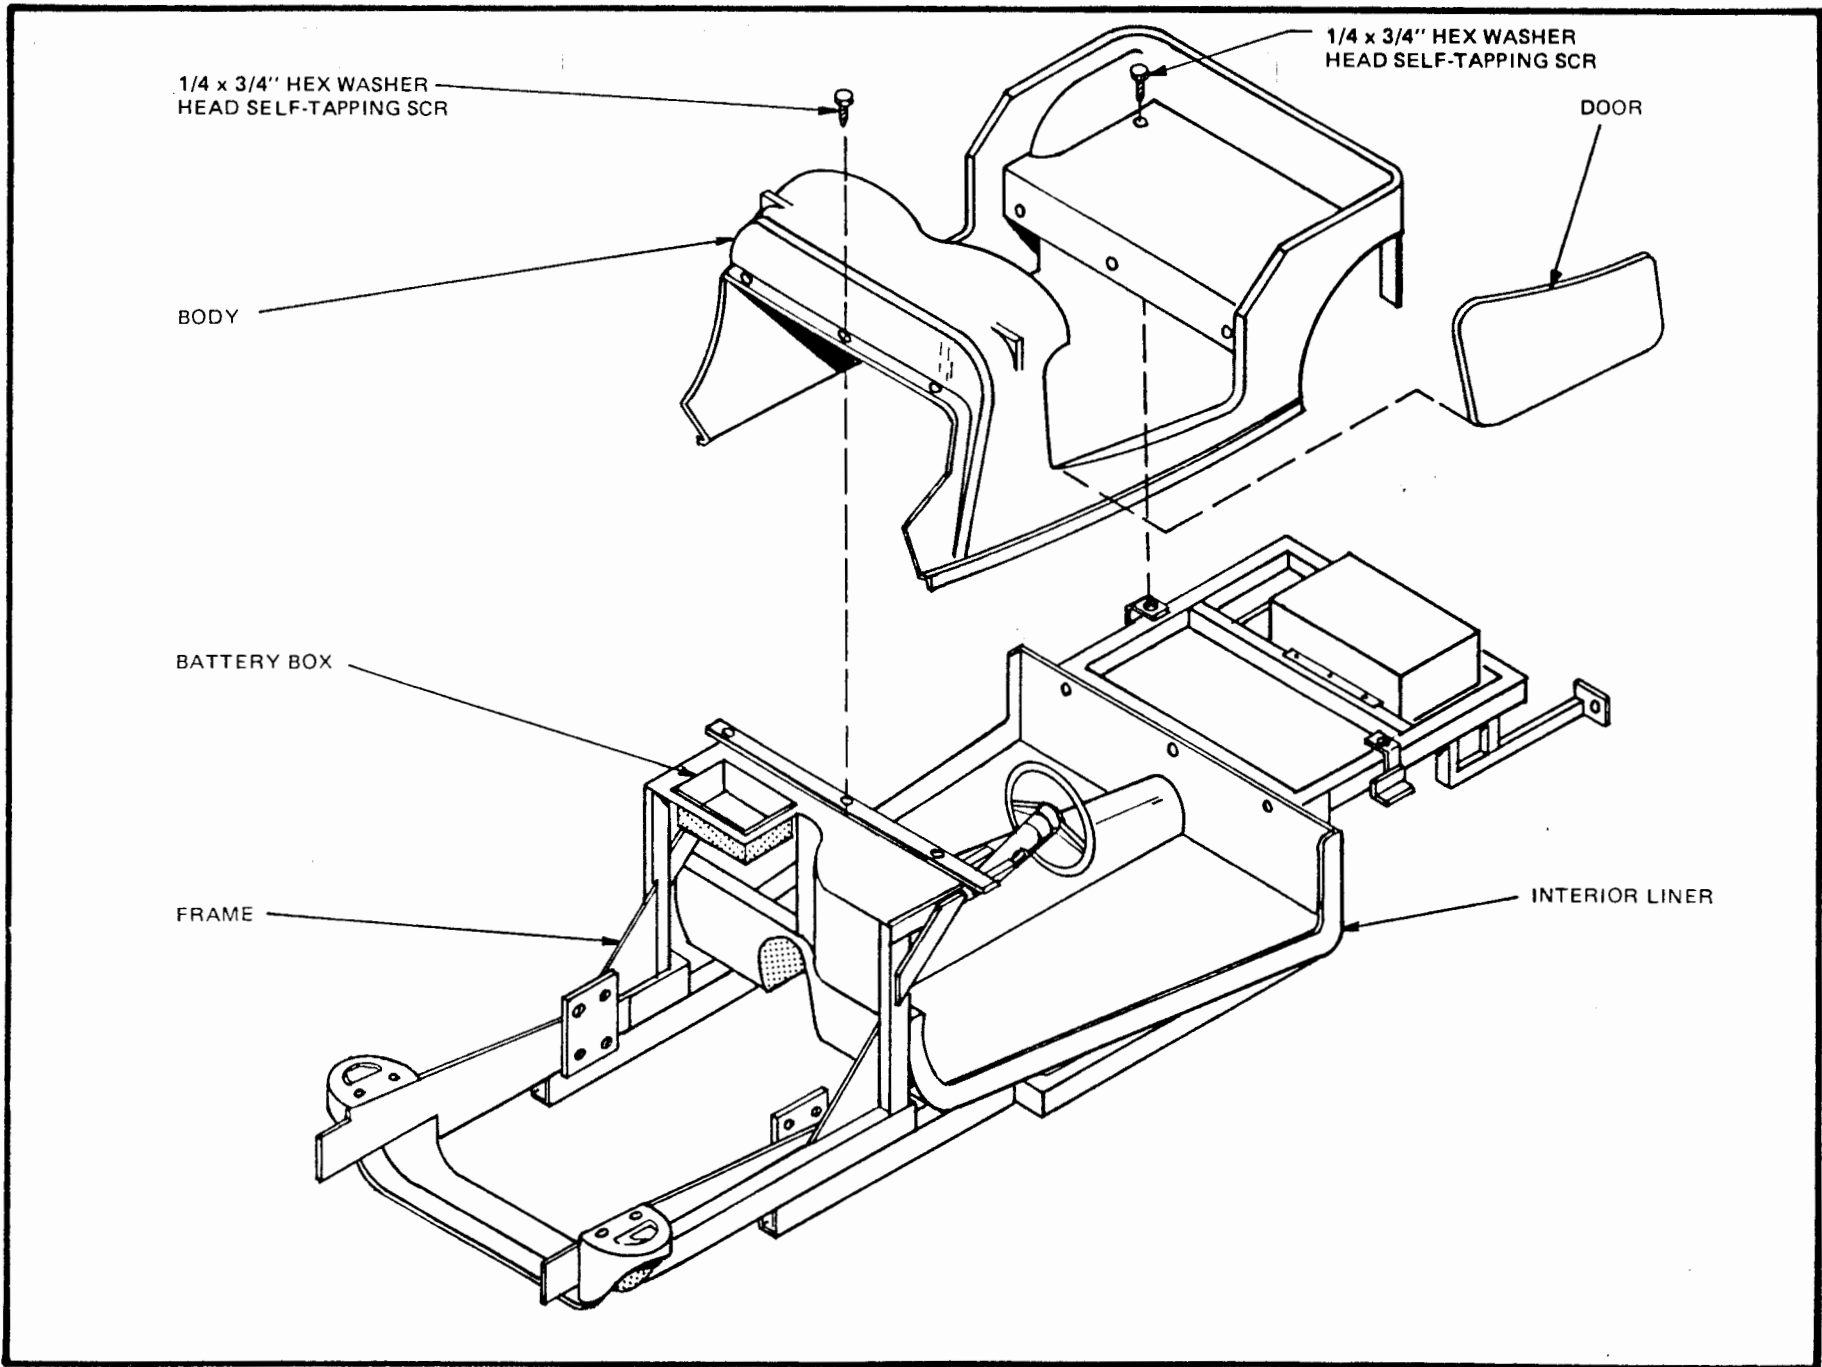

Figure 35
- Fit doors into body to check alignment. Shift the front of the body left or right to achieve the most even door fit. (Small gaps between door lip and body are normal and will be taken up by gasketing material.) When best position is found, drill through holes on front of body into frame (7/32" drill). Secure with 1/4 x 3/4" hex washer head self-tapping screws. (Figure 35)